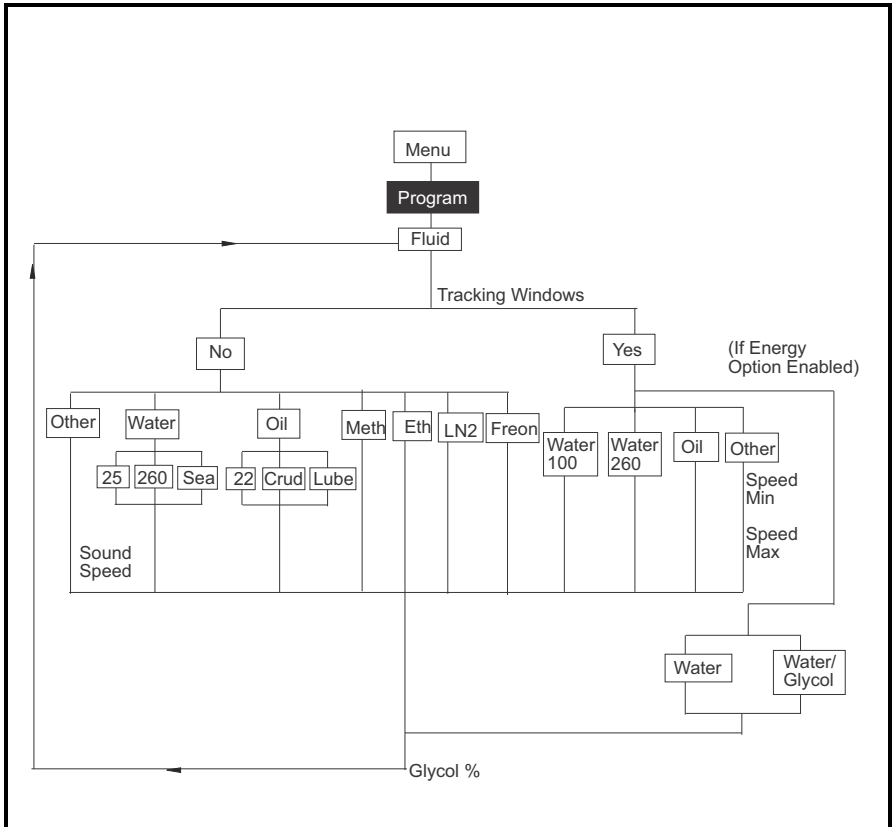

Figure 145: Fluid Option
- Fluid Option - Figure 145 on page 229